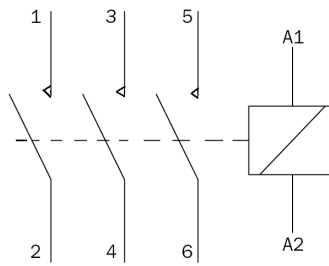

Figure 3.29
8. The symbol in *Figure 3.29* represents _____.